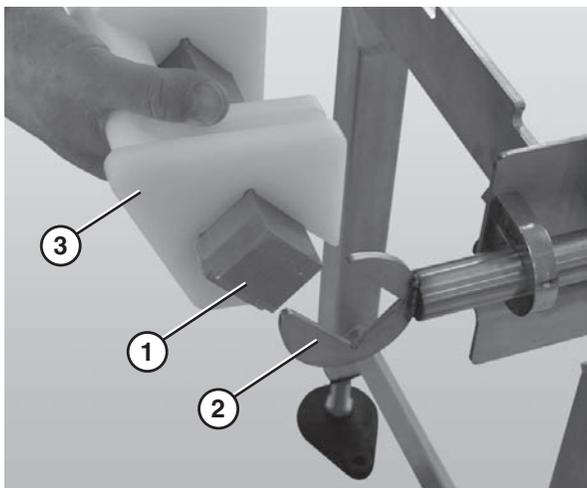

Figure 66
- Slide the nose bar drive or transfer post (Figure 66, item 1) out of the nose bar drive weldment or idler hands (Figure 66, item 2).
- Remove the nose bar tracking pucks (Figure 66, item 3), if applicable.